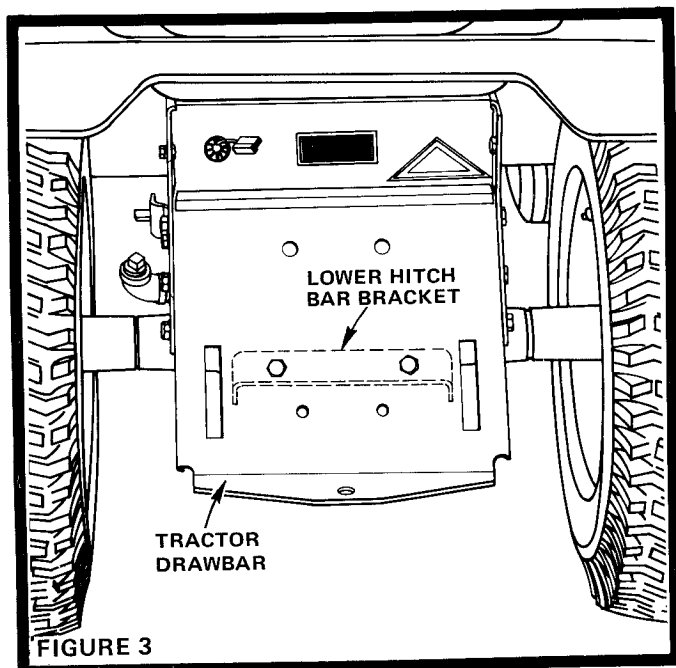

FIGURE 3
**IF YOUR TRACTOR REAR REFLECTOR AND DRAWBAR LOOK LIKE THOSE SHOWN IN FIGURE 3 BEGIN ASSEMBLY WITH STEP 6.**
IF YOUR TRACTOR REAR REFLECTOR AND DRAWBAR LOOK LIKE THOSE IN FIGURE 3 BEGIN ASSEMBLY WITH STEP 6.
- Position Lower Hitch Bar Bracket to underside of Tractor Drawbar as shown in Fig. 3.